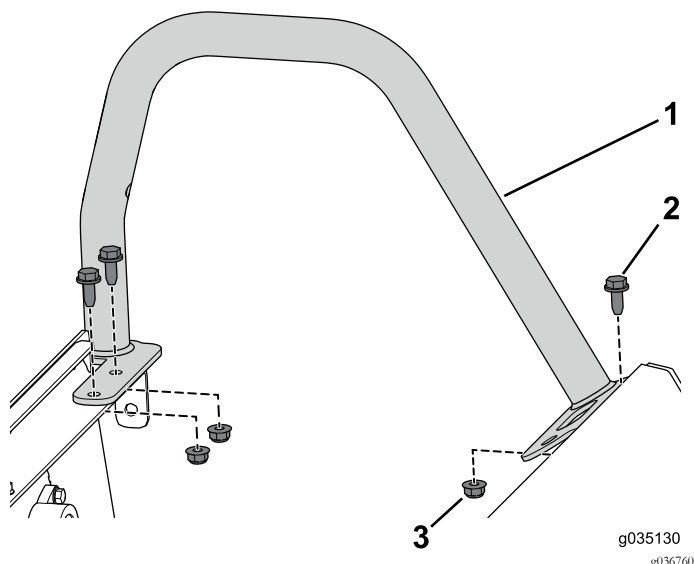

Figure 54
2. Remove the 3 flange bolts and flange nuts that secure the left hip restraint (Figure 54).